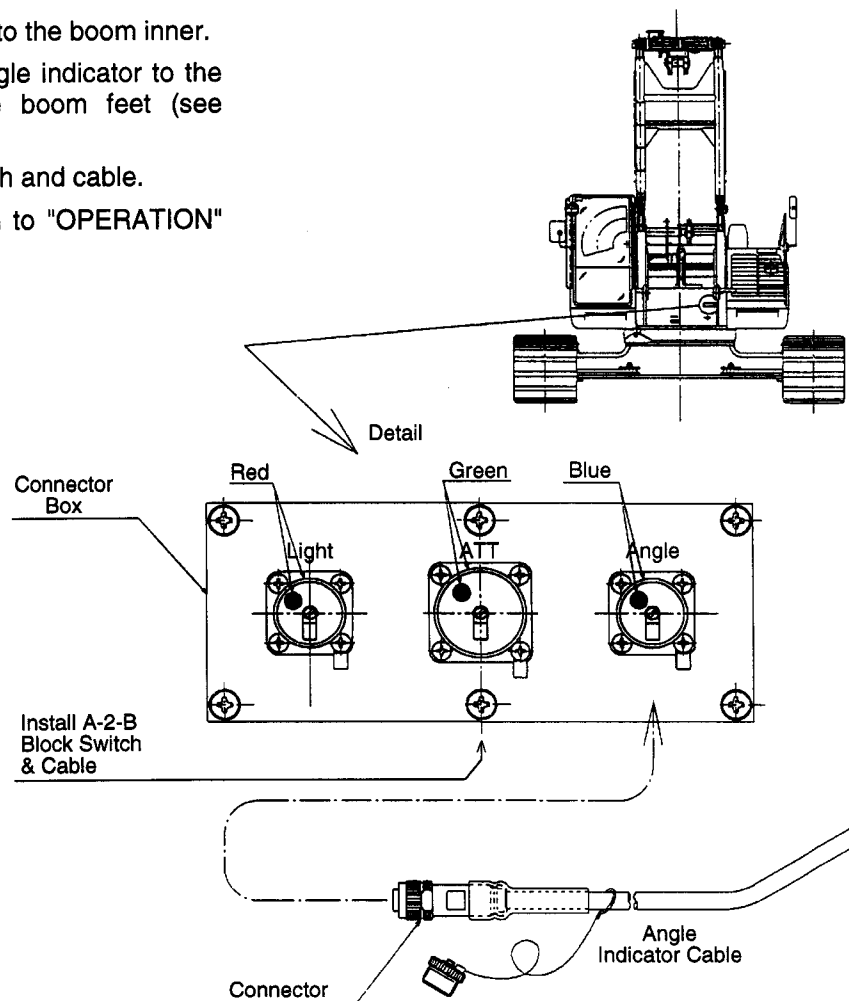

Figure 1
- B. Connect the cable for the angle indicator to the connector box between the boom feet (see Figure 1).